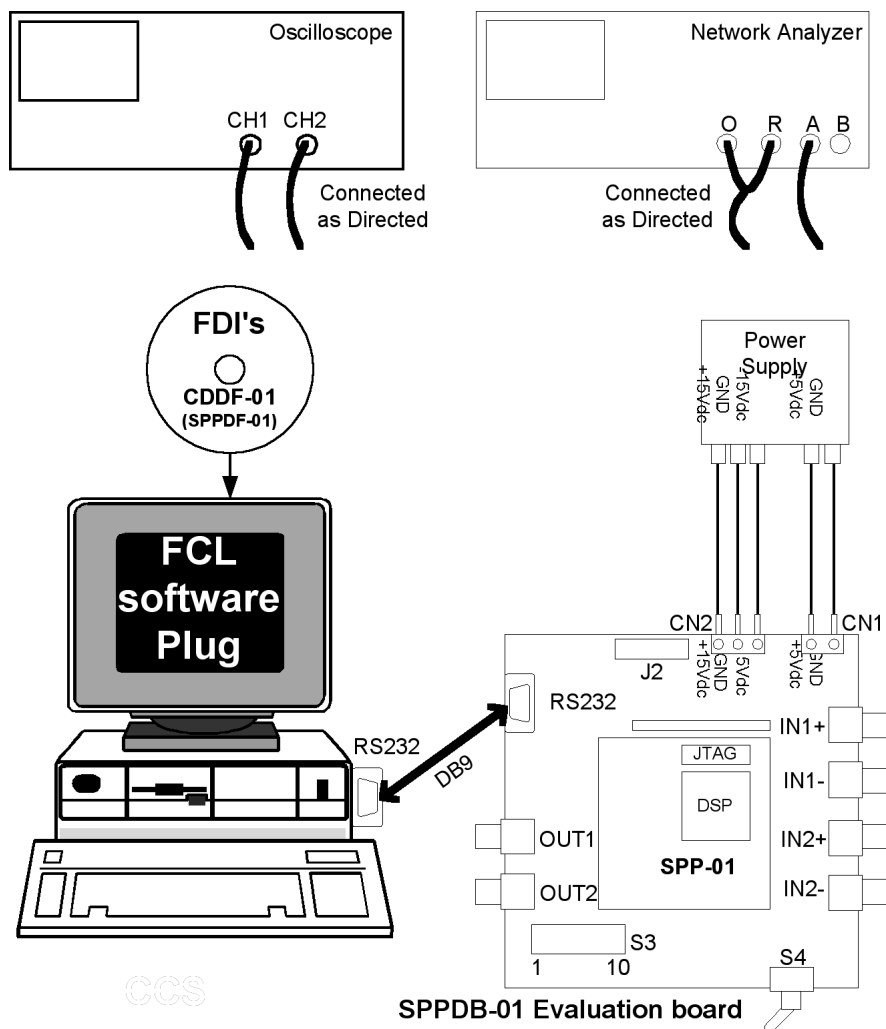

Figure 1 - SPPDF-01 Hardware Configuration
See Figure 1 for SPPDF-01 hardware configuration:
- 7. Fp2: Second Pass-band Cutoff Input Control** enters a numeric value interpreted as Second Pass-band Cutoff Frequency (Fp2 in Hz) for band-pass and band-stop type filters. This control is enabled only when the Filter Type (**Item 1, Figure 1**) selected is either *Band-Pass* or *Band-Stop*.
10. **Fs2: Second Stop-band Cutoff Input Control** enters a numeric value interpreted as Second Stop-band Cutoff Frequency (Fs2 in Hz) for band-pass and band-stop type of filters. This control is enabled only when the Filter Type (**Item 1, Figure 1**) selected is either *Band Pass* or *Band Stop*.